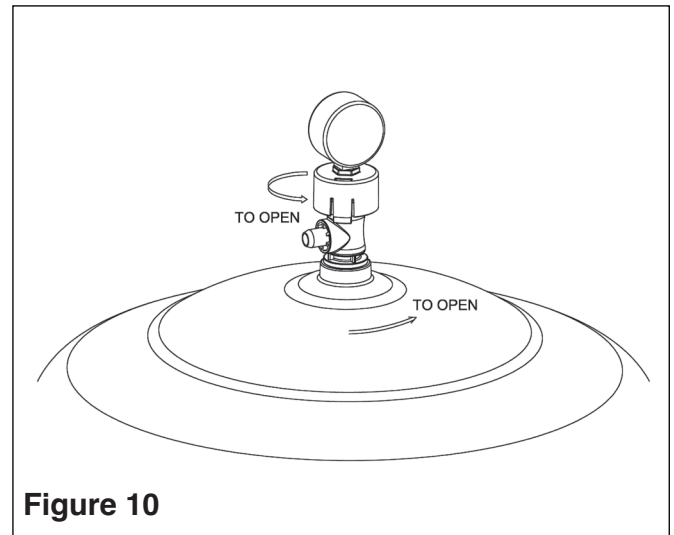

Figure 10
3. The manual air relief valve (MAR) must be placed in the OPEN position (see Fig. 10).
5. The air relief valve can be removed by unscrewing the entire part counterclockwise (see Fig. 10).